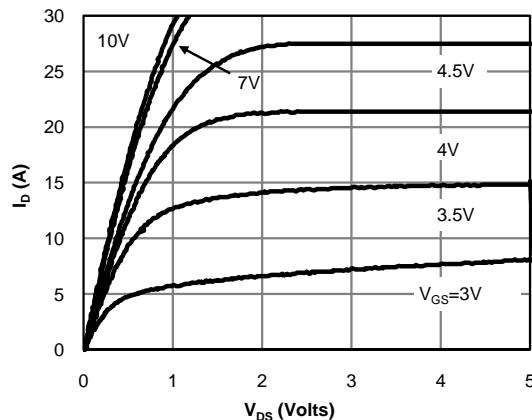

Fig 1: On-Region Characteristics (Note E)
E. The static characteristics in Figures 1 to 6 are obtained using <300 $\mu\text{s}$  pulses, duty cycle 0.5% max.